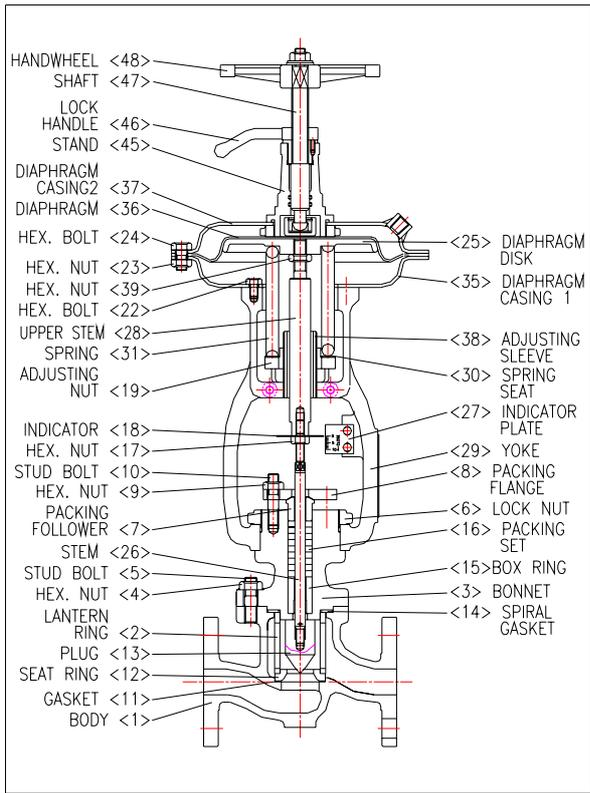
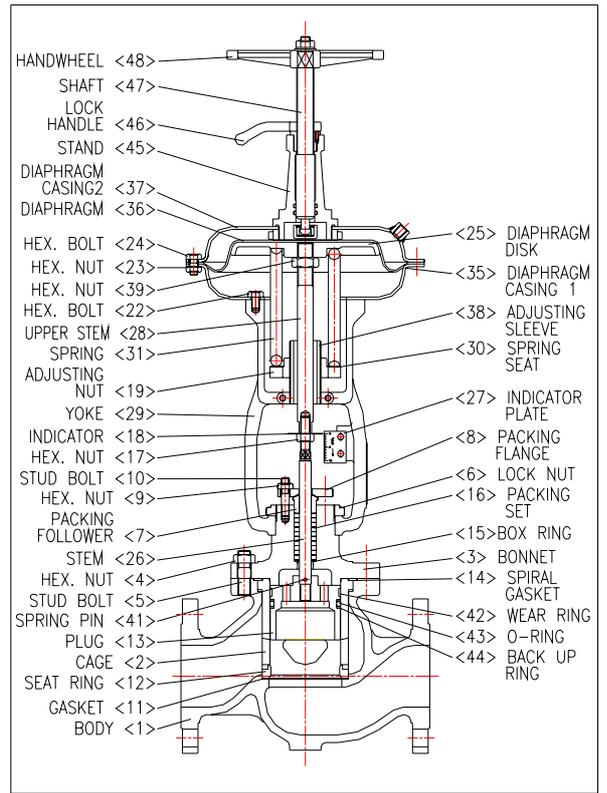

FIG.4 ~ DP SERIES : AIR TO CLOSE(DIRECT) TYPE ACTUATOR AND VALVE BODY ASSEMBLY
FIG. 6 ~ DG SERIES : AIR TO CLOSE(DIRECT) TYPE ACTUATOR AND VALVE BODY ASSEMBLY
**1. Renewing packing set** (See Fig. 4~7 in appendix):
## 2. Disassembly of diaphragm actuator from valve body (See Figure 4 ~ 7 in appendix)
## 3. Disassembly of valve body assembly (See Fig. 4~7)
(See Figure 4 and Figure 6 in Appendix I)